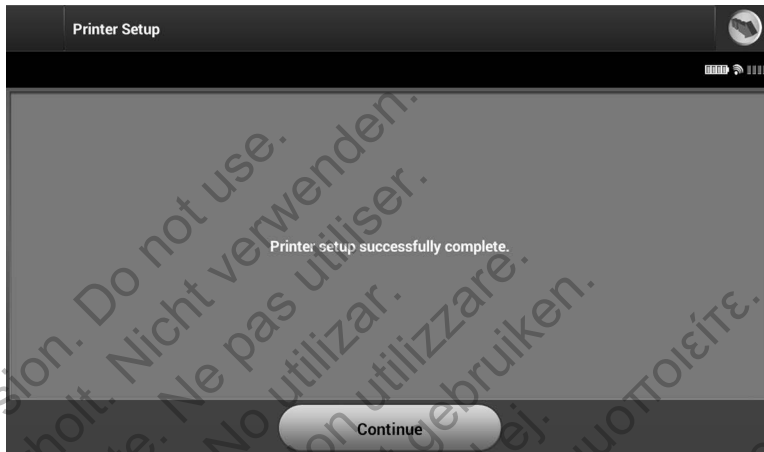

Figure 12: Printer Setup confirmation screen
5. Select the Save button to save the changes and return to the Programmer Settings screen, or select Cancel to return to the Programmer Settings screen without saving the changes. A confirmation screen will appear when the printer setup is completed (Figure 12).